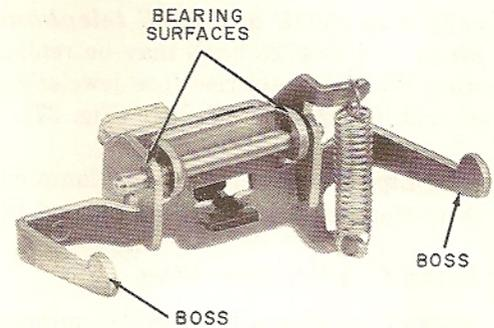

Fig. 24 — Operating Bracket Switch Assembly, 500- and 501-Type Telephone Sets
- Clean bosses on operating bracket arms, spring anchor points, operating bracket, and shaft bearing points with KS-2423 cloth moistened in KS-7860 petroleum spirits and lubricate bearing surfaces with a No. 2 or softer graphite pencil (Fig. 24 and 25).